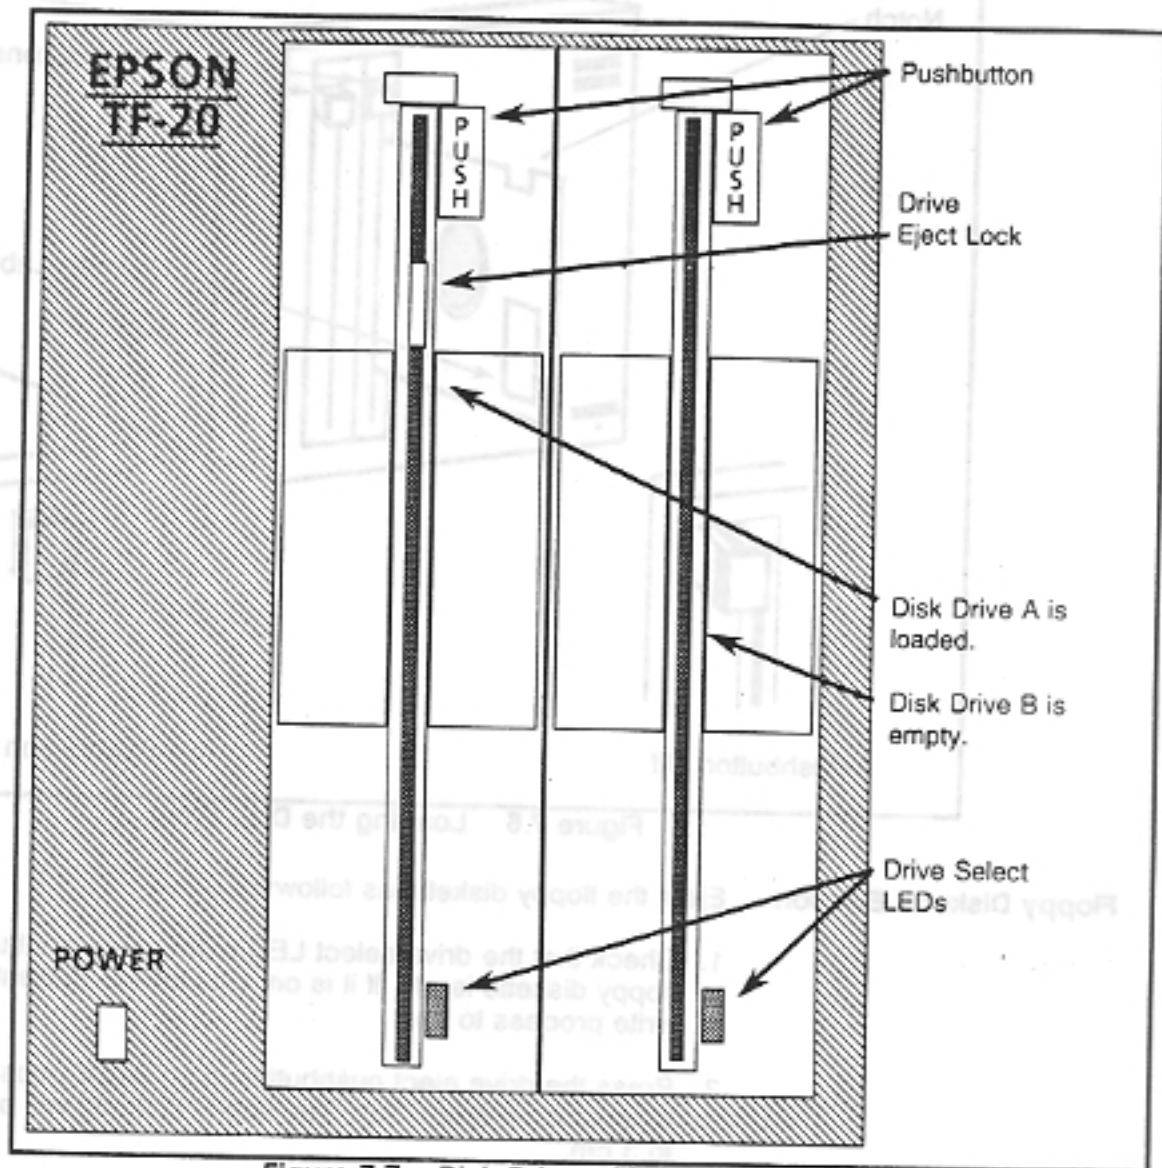

Figure 7.7 Disk Drive with Diskette Loaded
3. Push the floppy diskette in until a click is heard and the drive eject lock pops out (Figure 7.7).